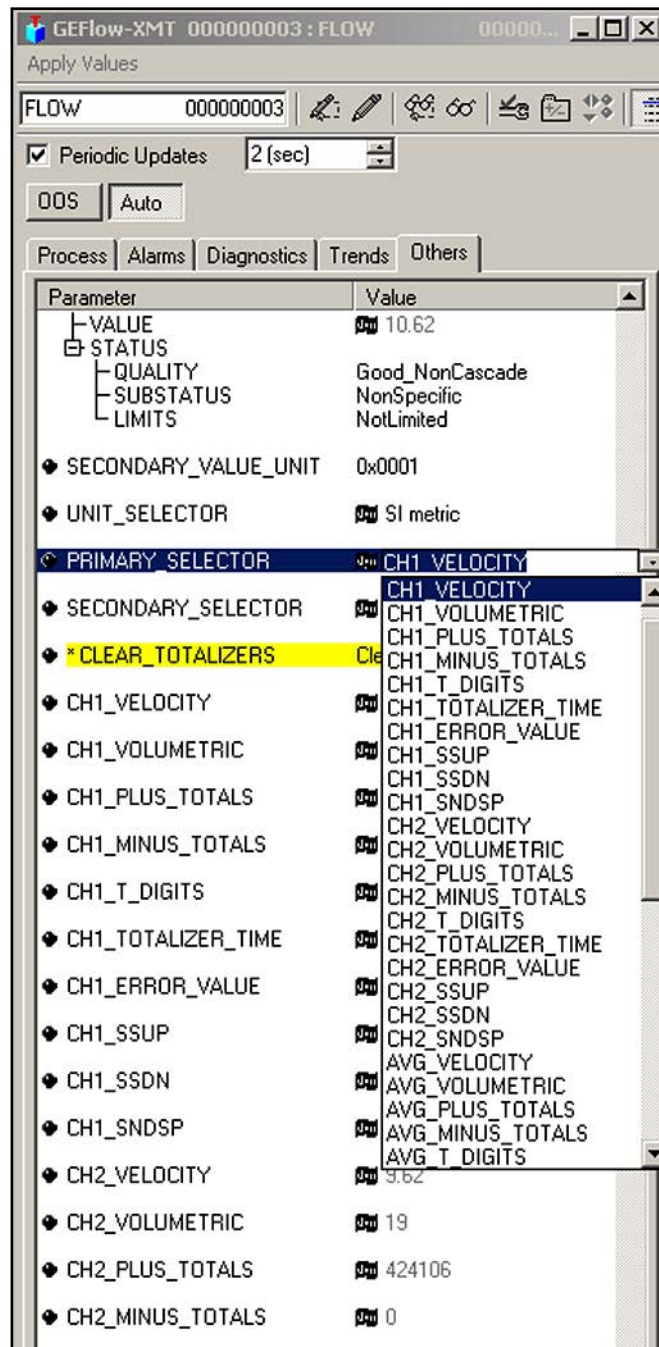

Figure 49: Primary Selector Drop Down List
2. Select the **Others** tab and open the drop down list for the PRIMARY_SELECTOR through **6th_SELECTOR** (refer to Figure 49 on page 77).
3. Choose the unit from the list (see Figure 49 on page 77).